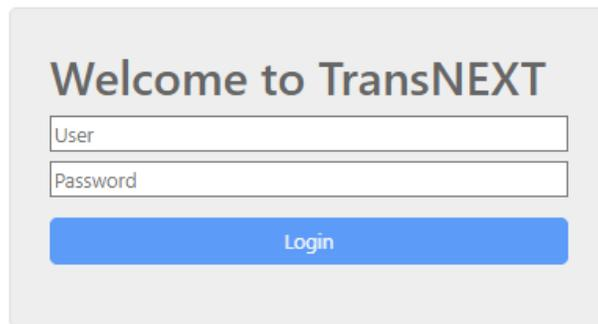

Figure 3-2. Login Screen
5. Enter the unit's IP address in a web browser window, just as you would enter a website address. When the login screen appears (Figure 3-2. Login Screen), enter the User Name and Password for the unit. (The default entries for a new unit are Admin for username and a unique 10-character password printed on the unit.) Click the **Login** button.